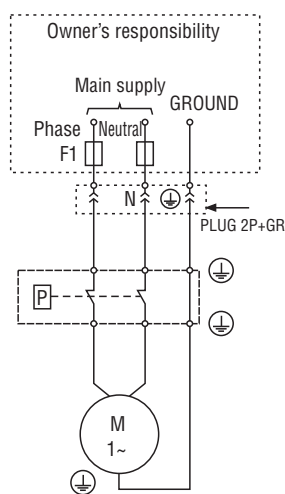

FIGURE 7 - ELECTRIC DIAGRAM
- Figure 7, shows a electrical diagram for electric connections with pressure switch and fuse.